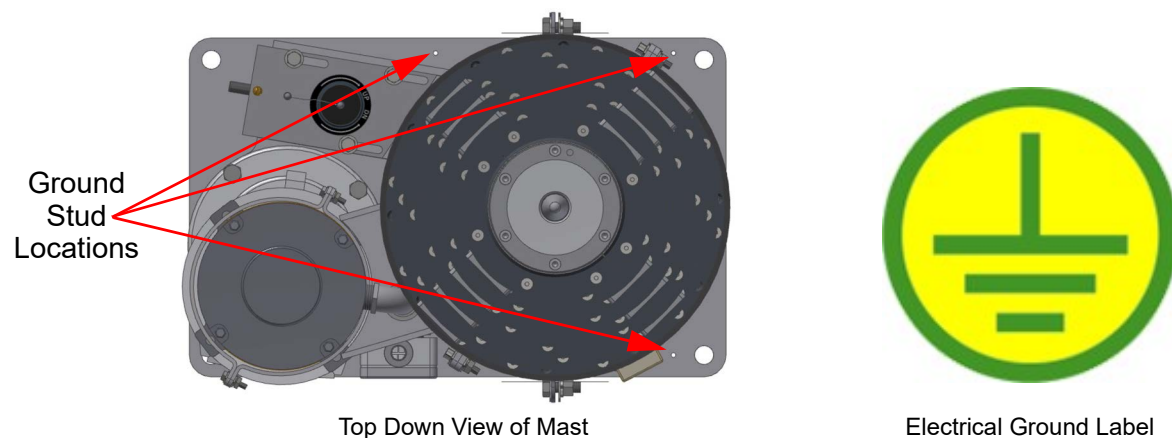

Figure 5-6 Ground Stud Locations
3. Attach one end of the Ground Strap to the mast at any of the Ground Stud locations. The #10-32 screws provided with the Ground Strap can be installed in any of the Ground Stud locations as needed. The Ground Stud locations are designated with the electrical ground label (Figure 5-6). Torque to 24-31 in.-lb. (2.7-3.5 N-m).